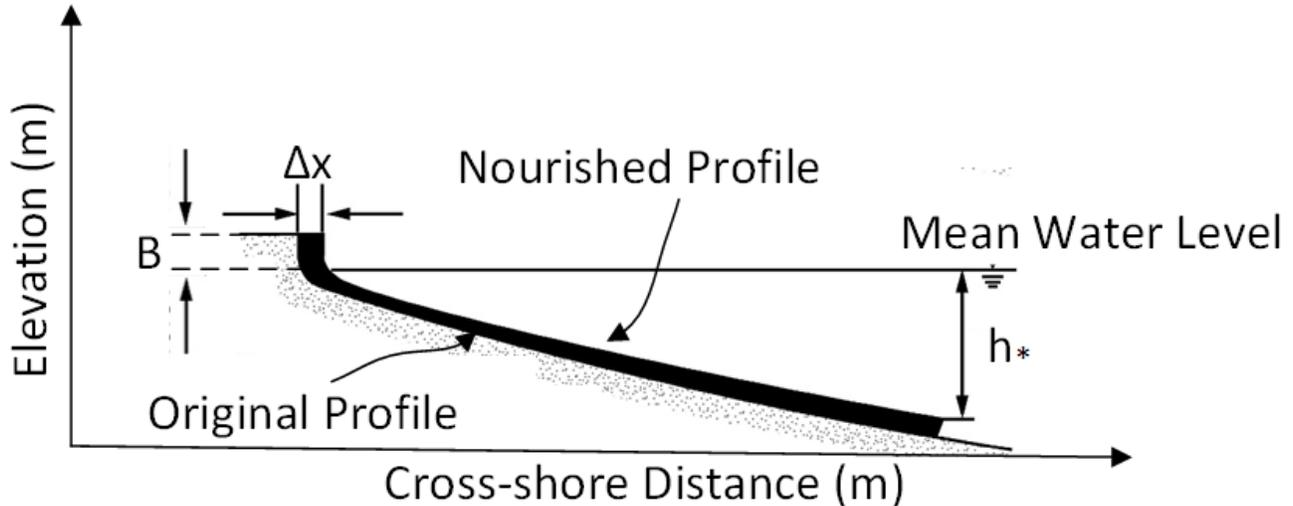

Figure 21. Schematic showing the original beach profile and the nourished beach profile providing the additional dry beach width,  $\Delta x$ .
where  $h_*$  is the closure depth; location where the beach profile is expected to change little, and  $B$  is the berm height (refer to Figure 21). The total volume is then obtained by multiplying equation (19) by the project length. In a natural setting, the length may be on the order of kilometers. In the Making Waves in the Classroom exercises the project length is the internal flume width.